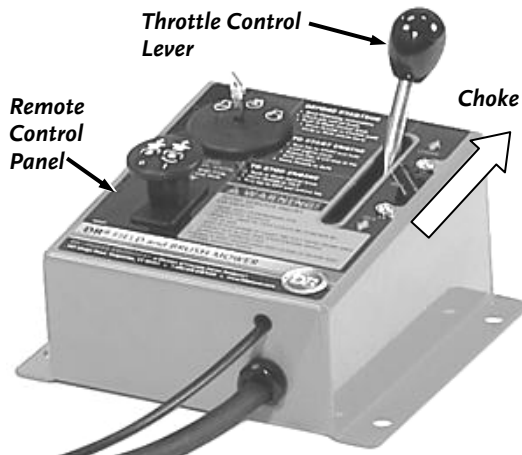

Figure 12
2. Move the Throttle Control to the Choke position on the Remote Control Panel (**Figure 12**).